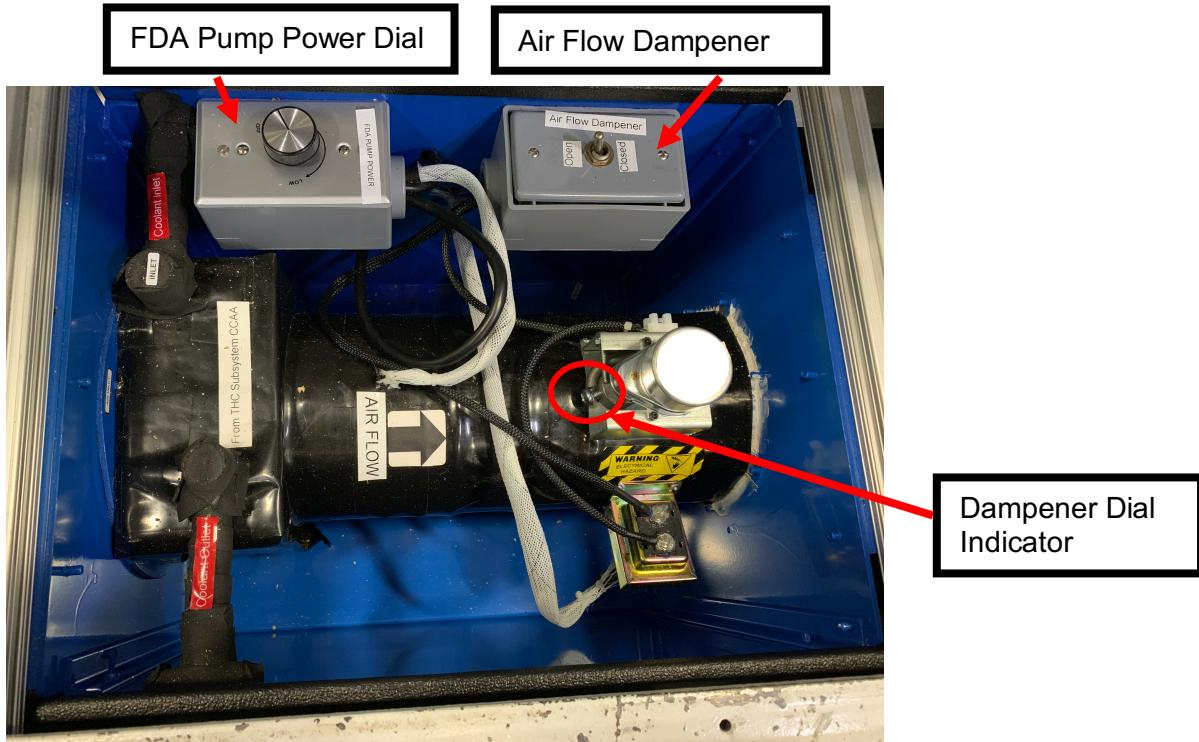

Figure 4: Fan Dampener Assembly (FDA) Pump
- 3.5 Turn FDA Pump Power Dial counterclockwise to "OFF". (see Figure 4) Listen for a click.
- 3.6 Flip Air Flow Dampener switch to "Closed". (see Figure 4)
- 3.7 Confirm Dampener Dial Indicator (metal Philips head screw with spring attached) rotates to fully closed. (see Figure 4)
- 10.2 Flip Air Flow Dampener switch to “OPEN” (see Figure 4).
10.2.1 Check that the Dampener Dial Indicator (metal Philips head screw with spring attached) rotates to fully open (see Figure 4).
10.3 Turn FDA Pump Power Dial to “ON” by rotating clockwise. After hearing click, stop rotation at Midpoint. (see Figure 4).